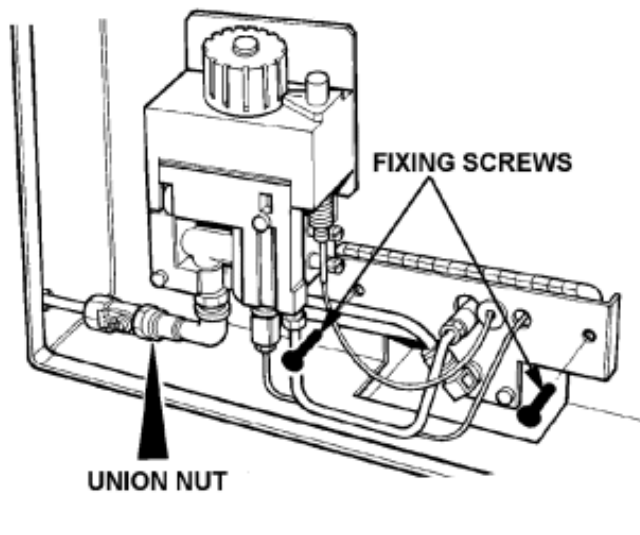

Fig. 7 DESN 512440
1. Isolate the gas supply by turning off the service gas valve beneath the combination gas valve. Break the hexagon union connection nut. (See Fig. 7).
2. Detach inner burner fixing screws (See Fig. 7) and draw complete gas burner assembly clear of the combustion chamber resting it on the floor in front of the range.